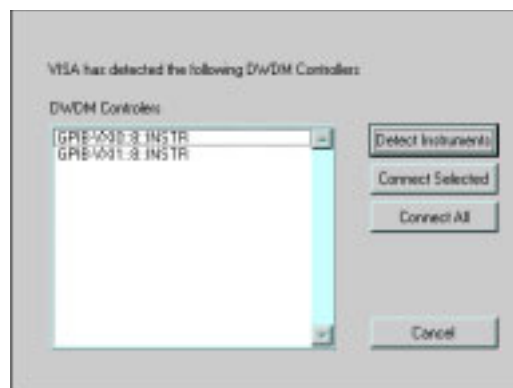

Figure 3-2. Instrument Found
2. Click on the **Detect Instrument** button to detect all VISA configured instruments connected to the external controller as shown in Figure 3-2. (In this case VISA has detected 2 DWDM Controllers, GPIB-VXI0::8::INSTR and GPIB-VXI1::8::INSTR.)